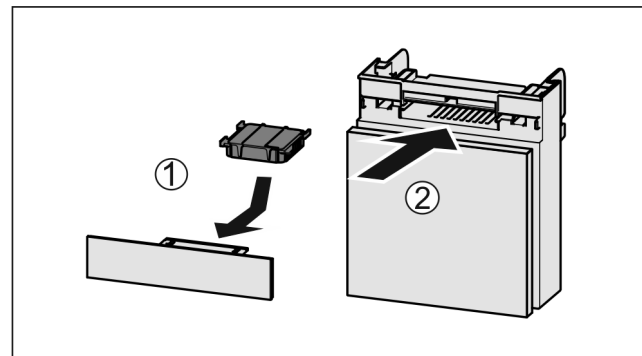

Fig. 120
- Insert the carbon filter as shown in the diagram Fig. 120 (1).
- Push the compartment in Fig. 120 (2).